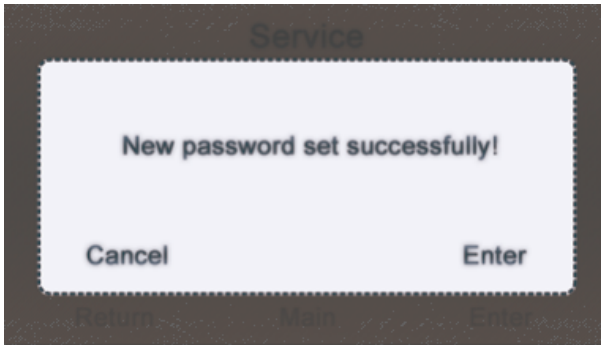

Figure 11
E. If the new password has been set successfully, a window prompting "New password set Successfully!", as shown in Figure 11 will appear; press "Enter" or "Cancel" to return to the previous menu